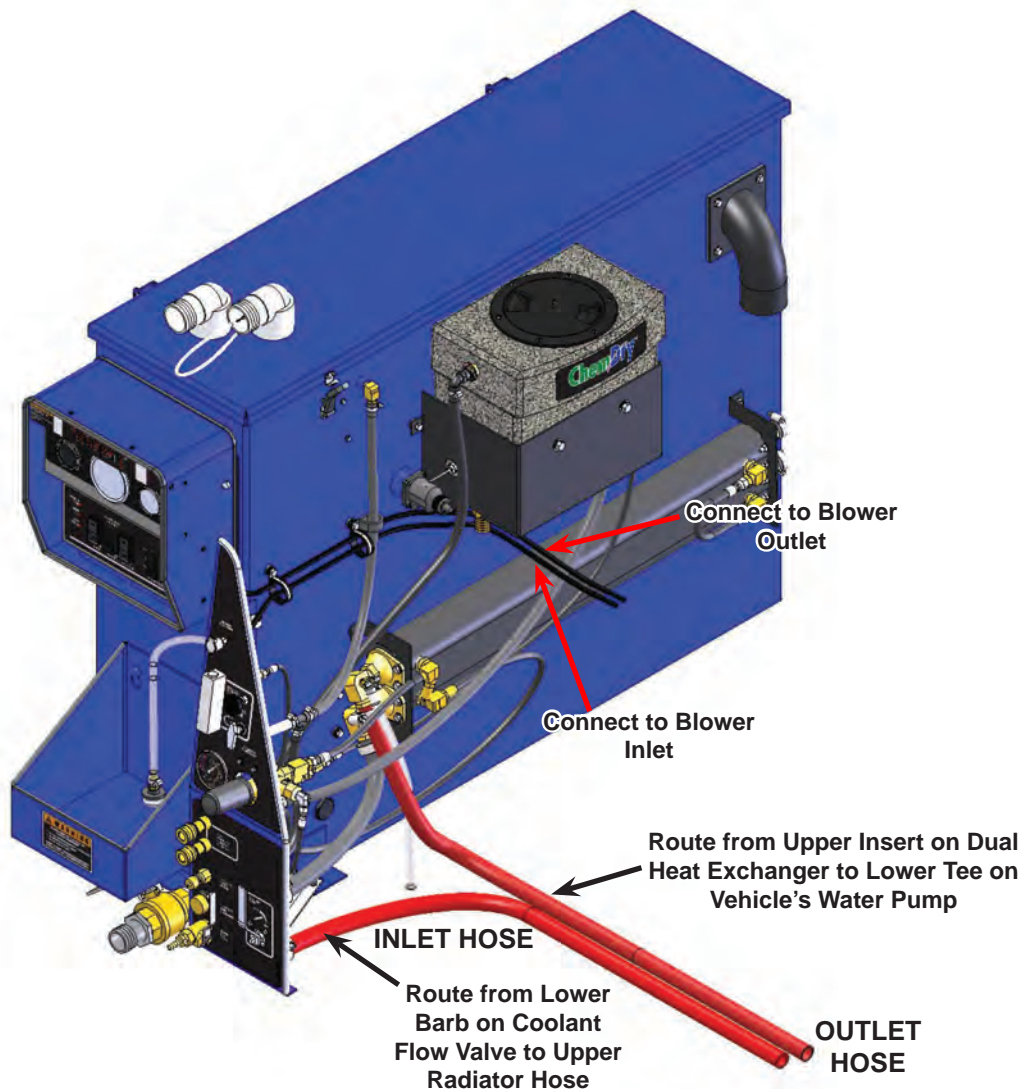

Figure 54. Proper Routing of Coolant Hoses to/from Engine and Blower
5. Route the coolant hoses from the back of the engine along the passenger side of the Power Pack to the dual heat exchangers mounted on the Recovery Tank (see Figure 54).
The inlet hose that comes from the upper radiator hose tee must be connected to the lower barb on the coolant flow valve (see Figure 54). The outlet hose routes from the upper insert on the Dual Heat Exchanger to the lower tee on the engine's water pump.